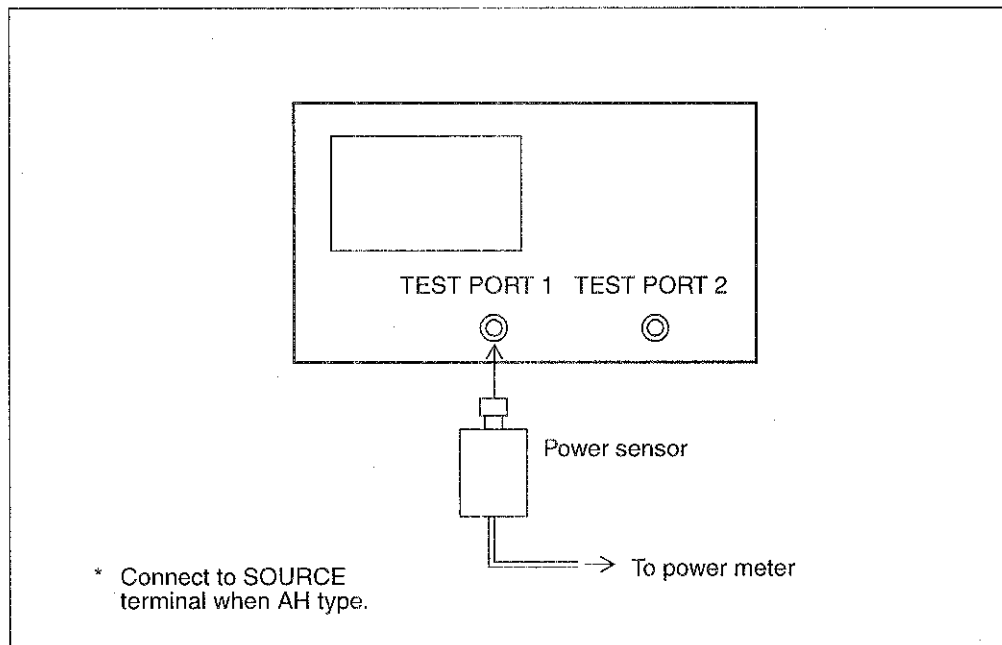

Figure 10-3 Output Level Linearity
- ③ Connect the power sensor to the output terminal and perform the measurement. (Refer to Figure 10-3.)